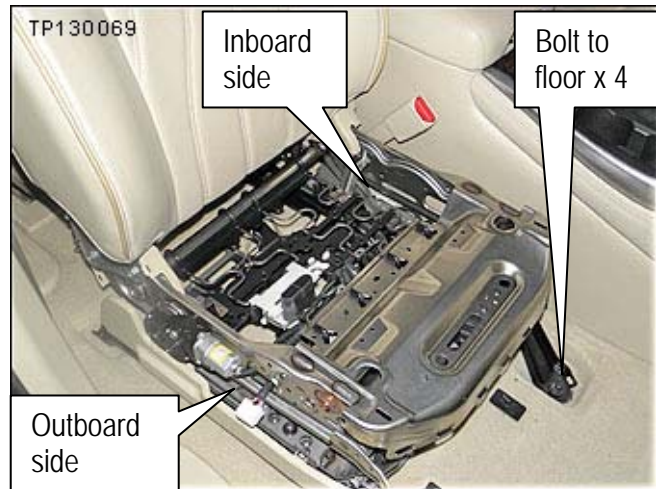

Figure 16
30. Remove all 4 seat frame 14 mm nuts (see Figures 16, 17 and 18).